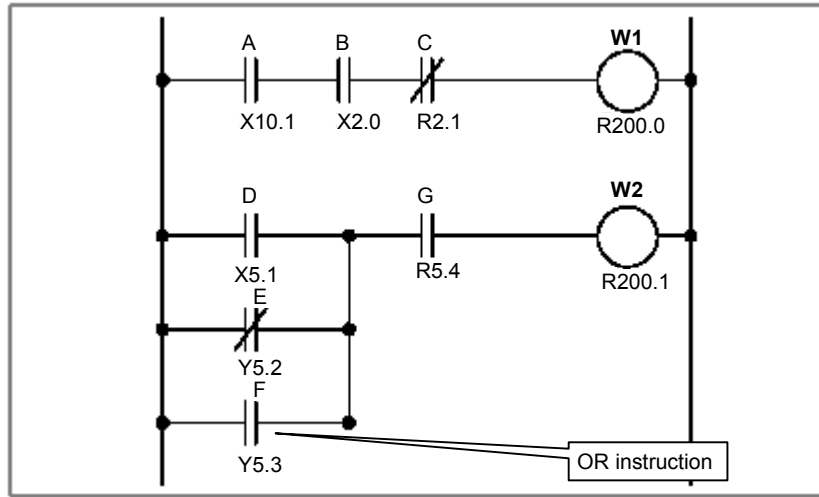

Fig. 4.1.8
- (1) This instruction produces a logical sum.
- (2) For examples of how the OR instruction is used, see Fig. 4.1.8 and Table 4.1.8.